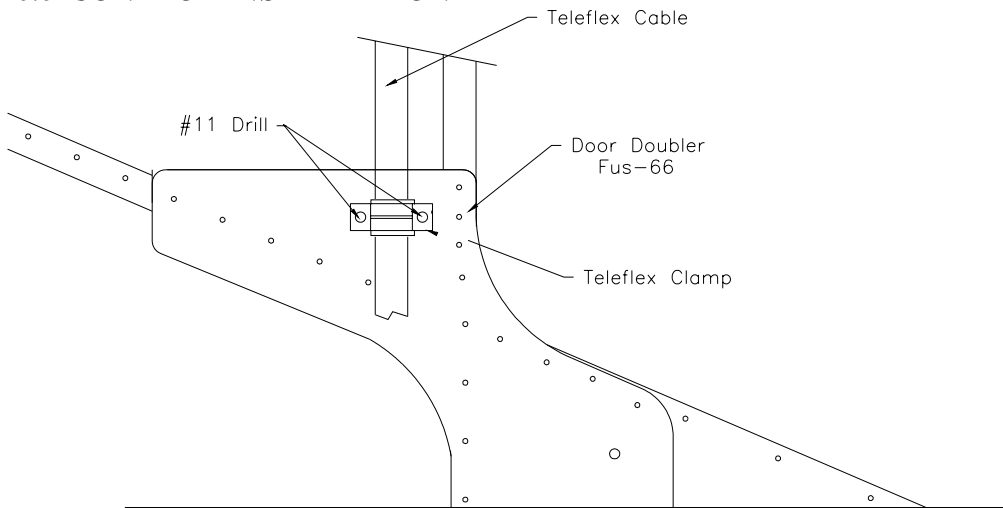

Figure 20.9.2
- 3) Position the teleflex cable retainer over the cable and use it as a guide to drill the two #11 holes into FUS-66 door doubler. Figure 20.9.2.